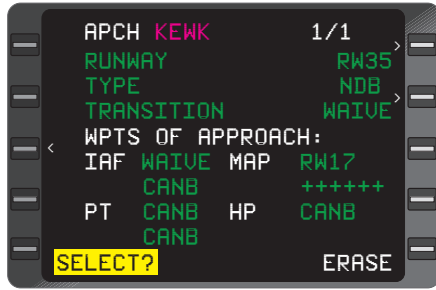

Figure 3-57
10. Approach Waypoints - REVIEW (Figure 3-57), then DEPRESS **ENT** Key to insert **APPROACH** into Active Flight Plan and return to the **ACTIVE FLIGHT PLAN** Page.